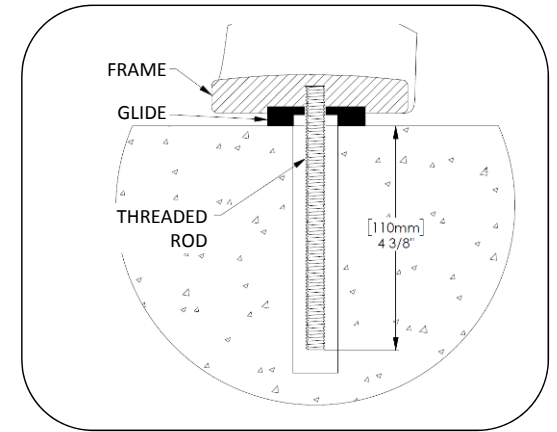

Fig. 3 – Section view of installed threaded rod
5. Move unit. Drill holes according to anchor manufacturer's recommendations, see Fig. 3. Clear holes of debris.